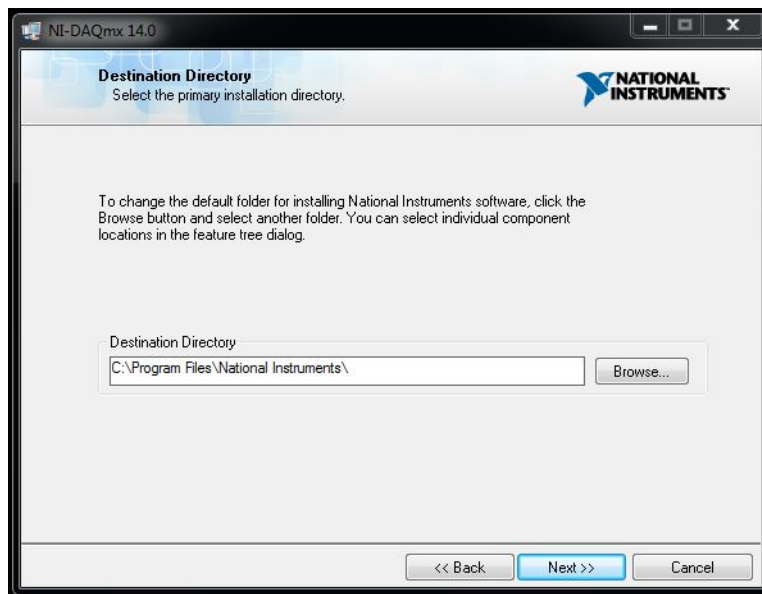

Figure 4-3: NI-DAQ™mx Installation – Step 3
3. On the next dialog window that appears, specify the destination directory and click Next. Typically, the default location is a good choice, but you can specify a location if desired (click Browse and navigate to the desired location) (see: Figure 4-3).